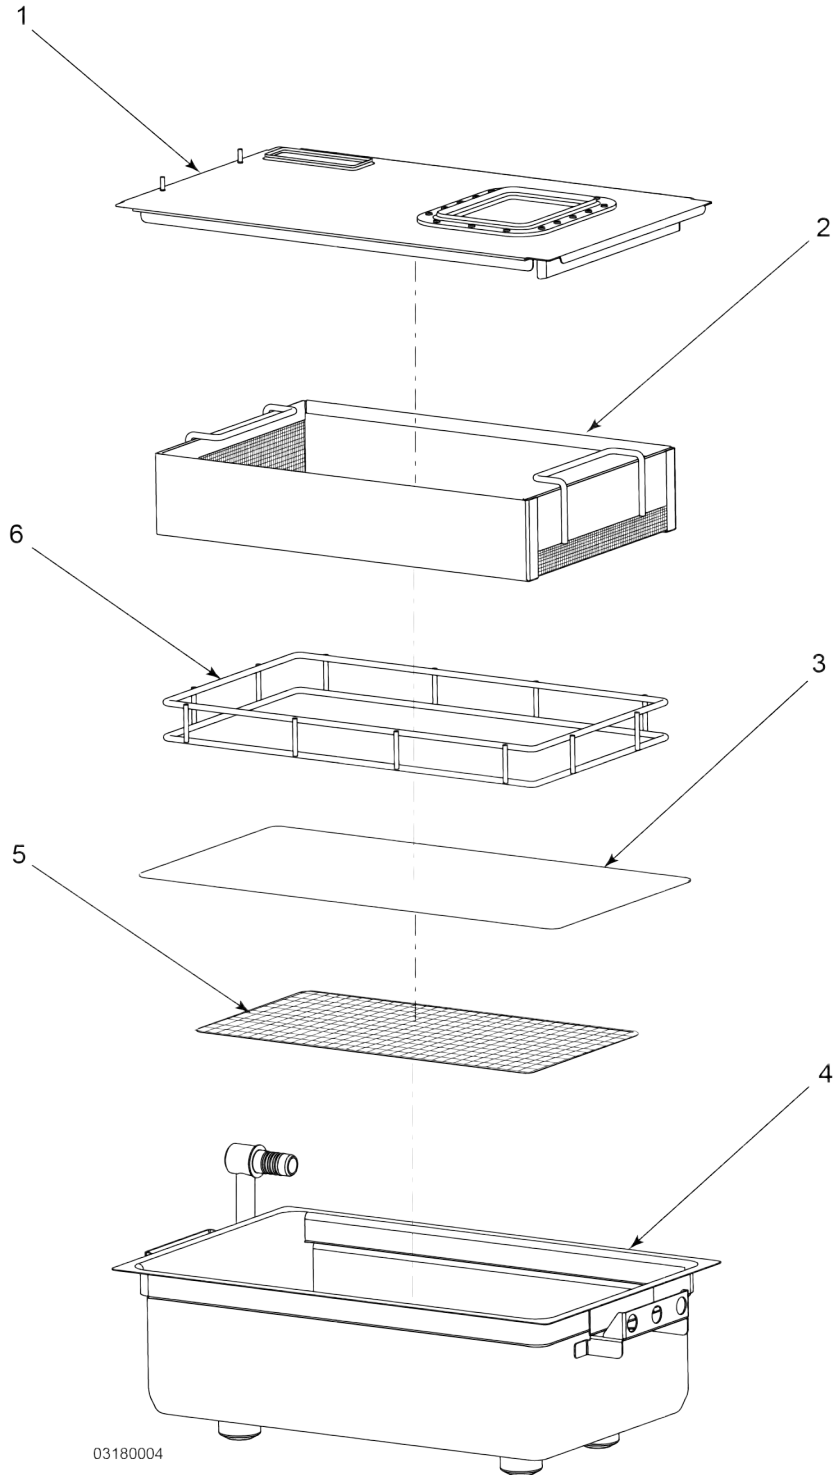

Figure 4-18 Drain Pan Assembly/Disassembly
- 3) Remove the filter pan lid and the crumb basket. Discard the crumbs in the crumb basket, see Figure 4-18 Drain Pan Assembly/Disassembly, page 35.
- a. Place the filter screen (5) in the drain pan base (4), see Figure 4-18 Drain Pan Assembly/Disassembly, page 35.
- b. Place filter paper (3) on top of the filter screen (5).
- c. Place drain pan weight (6) on top of the filter paper (3).
- d. Place crumb catcher (2) on top of the drain pan weight (6).
- e. Place drain pan lid (1) on top of the drain pan base (4).